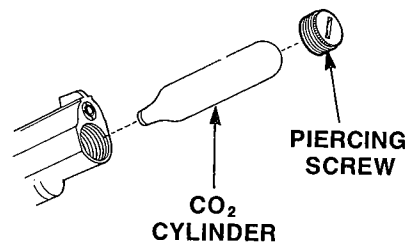

FIG. 5
- Insert the new CO2 cylinder into the conversion unit with the neck of the cylinder pointing toward the rear of the pistol. (Fig. 5)